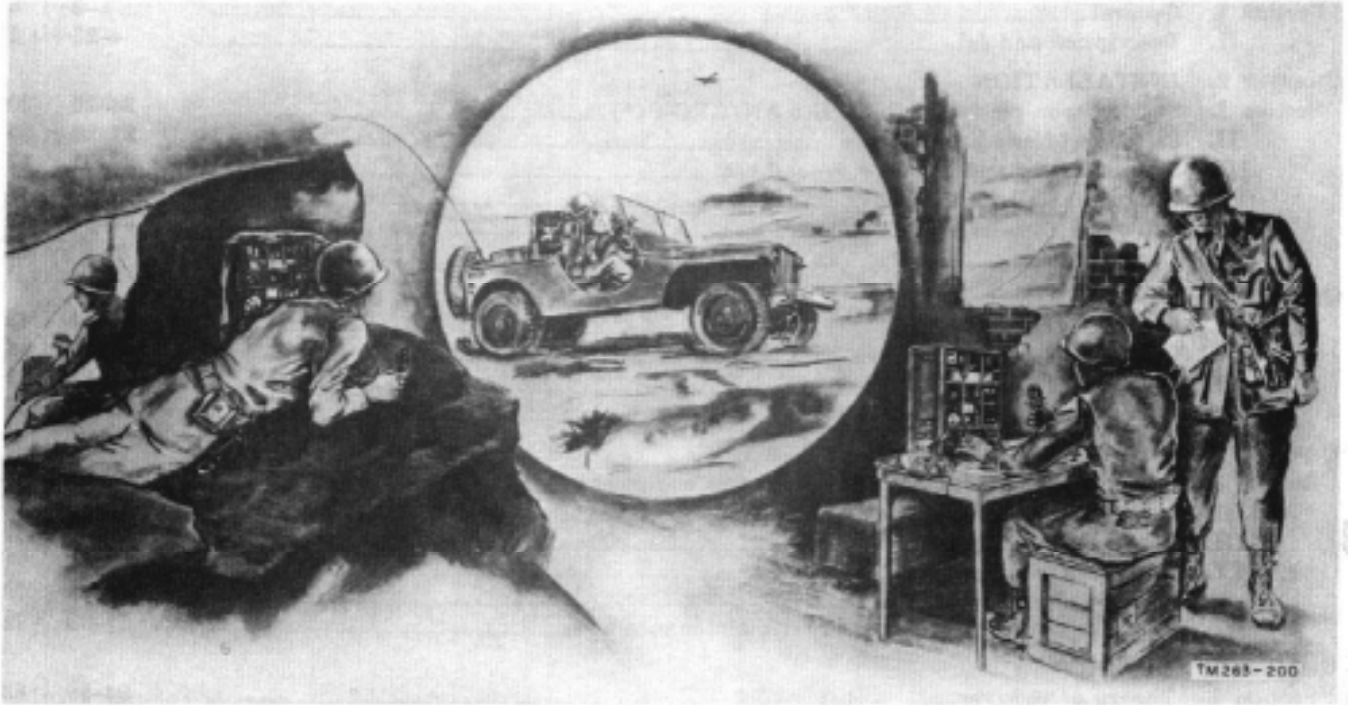

Figure 1. Typical applications for Radio Set AN/GRC-9().*
a. This manual contains information for the installation, operation, maintenance, and repair of Radio Set AN/GRC-9(*) (fig. 1).